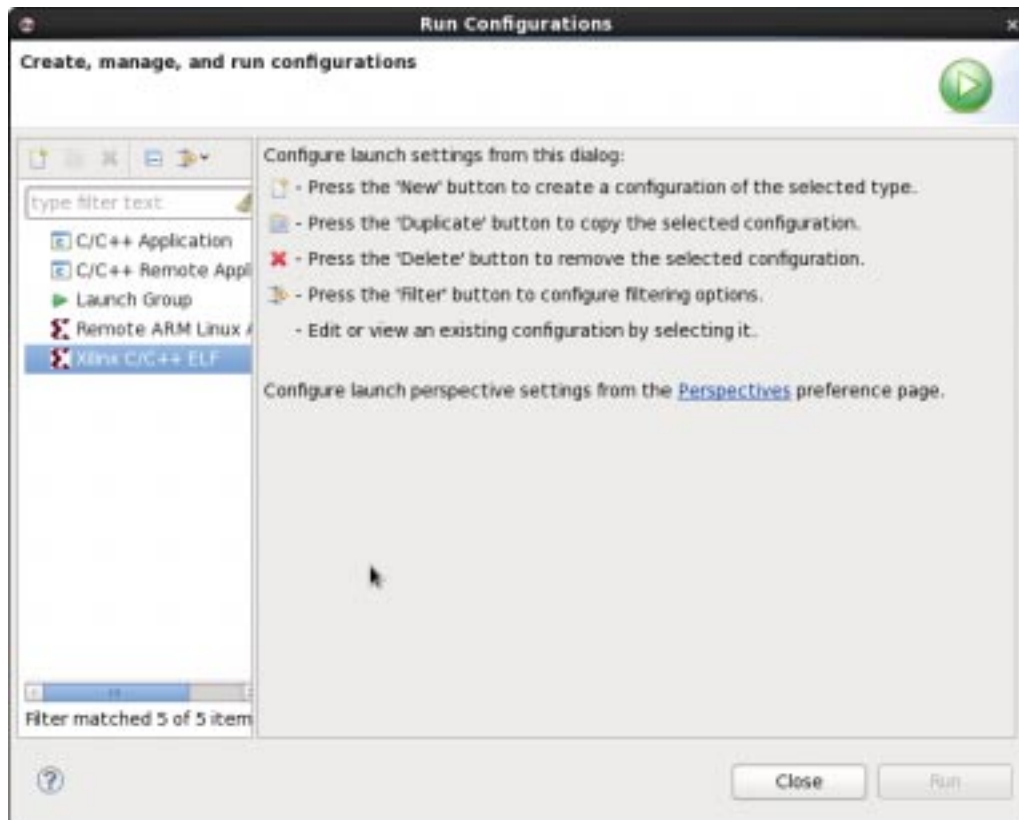

Figure 17: New Run Configuration.
7.7 In the Run Configuration pop-up window (Figure 17) , **right click Xilinx C/C++ ELF** and choose **New** (this needs only to be performed once, if you make changes to the program source code and recompile, it is not necessary to repeat this step).